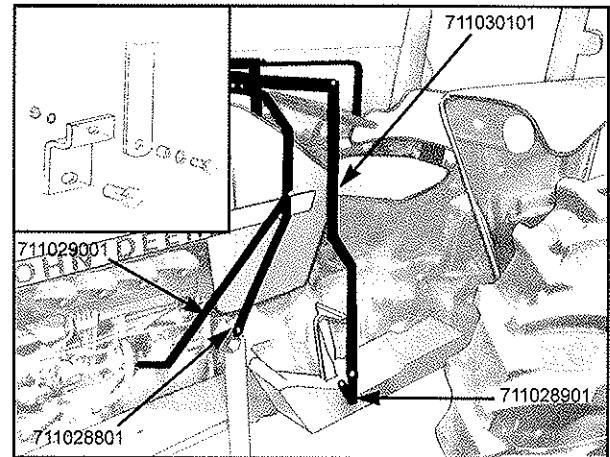

Figure 2
2. Bolt #711029201 saddle to mounts with 1/4" x 1" bolts, flat washers, spacers and 1/4" nuts. See insert in Figure 2.
3. Bolt #711029001 saddle brace to left side saddle with 1/4" x 1" bolt and nut. Bolt to tractor with 1/2" x 1" bolt. See Fig. 2.
5. Bolt #711028901 door post bracket to left side footrest. See Figure 2.
10. Slide #711030101 door post up in left side hem. Bolt top to yoke using 1/4" x 1" bolt & nut. Bolt bottom to footrest using 3/8" x 1 1/2" bolt and nut. With down exhaust use 3/8" x 2 1/2" bolt. See Figure 2.